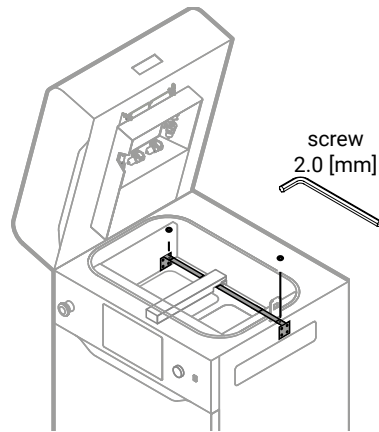

Fig. 13.13 Pre-screw the Recoater strip to the angle brackets.
13. Using a 2 [mm] allen key, pre-screw the Recoater strip to the angle brackets (fig. 13.13).